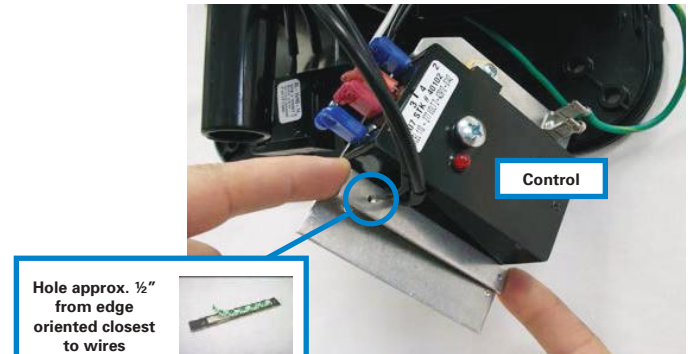

Figure 11
8. Locate the Control Adapter Plate (C) and peel the tape backing off. Place it over the **slotted and elongated holes** on the bracket so that the hole that is $\frac{1}{2}$ " from the edge of the Control Adapter Plate (C) is placed closest to the wire connections (**Figure 11**). Press the Adapter plate firmly into place flush against the Control.